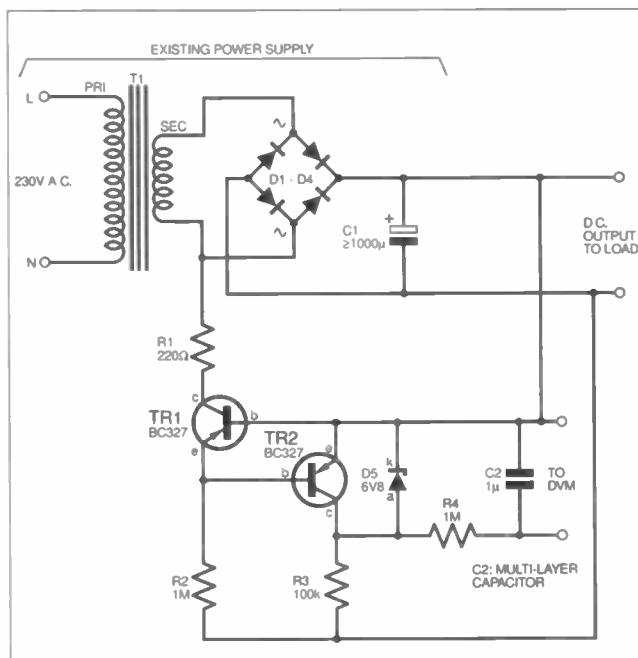

Fig.3. Lossless high-current sensor circuit diagram for 12V to 24V d.c. power supplies.
**T**HE circuit suggested in Fig. 3 was originally intended to allow current to be measured for capacitor-input filters, without using "lossy" shunts or expensive Hall-effect devices. The circuit as shown is suitable for d.c. power supplies in the range of 12V to 24V d.c., at any output current. It has worked well as a cheap method of providing a high-current battery charger with an ammeter, without needing to interrupt the circuit.